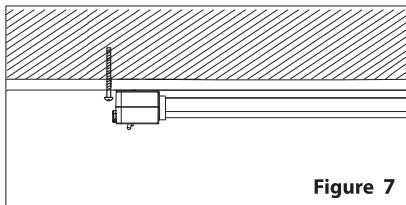

Figure 7
3. To better secure the fixture, mount a third screw next to the side of the outlet (See Figure 7). If anchor is required, mark the hole as close as possible to the fixture, remove the lamp, drill the hole on the marked position, install anchor into the drilled hole, re-install the fixture then install the screw into the wall anchor.